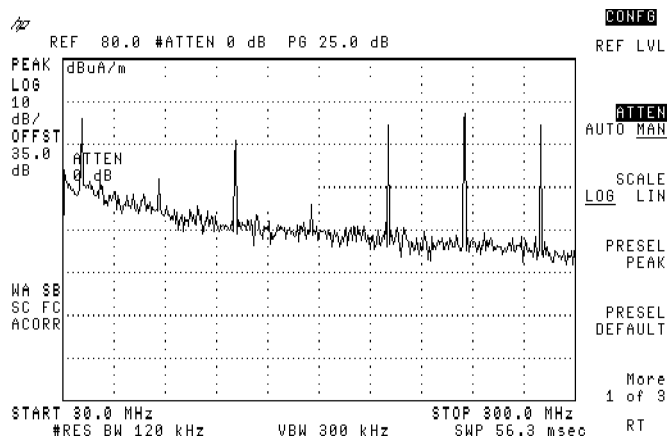

Figure 3-11. Adjusting the Reference Level and Attenuation
17. Press 0 **dB**. See Figure 3-11.